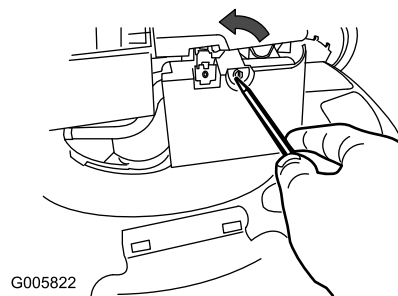

Figure 34
2. Use a screw driver to open the air-filter cover (Figure 34).